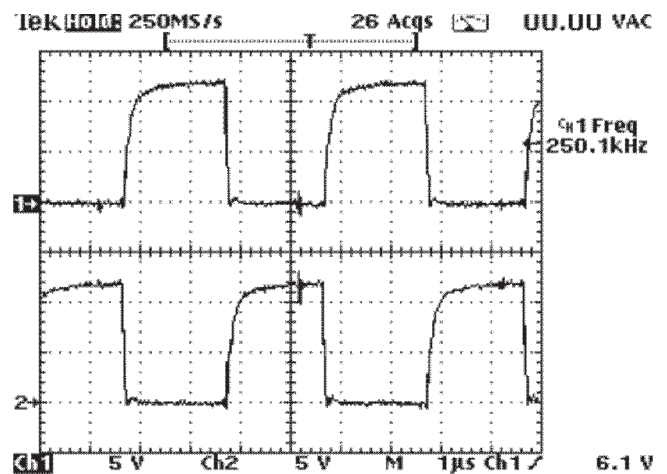

Figure 1.14. Proper FET gate drive signals with FETs installed (with chassis ground reference)
- FET drive**—The service fixture also makes it possible to check and verify the drive signals to the gates of the output FETs, Q10, Q11, Q58, and Q59 (see Figure 1.14). However, to get at the FET gates you must remove the amplifier module (the main circuit board assembly) from the chassis.